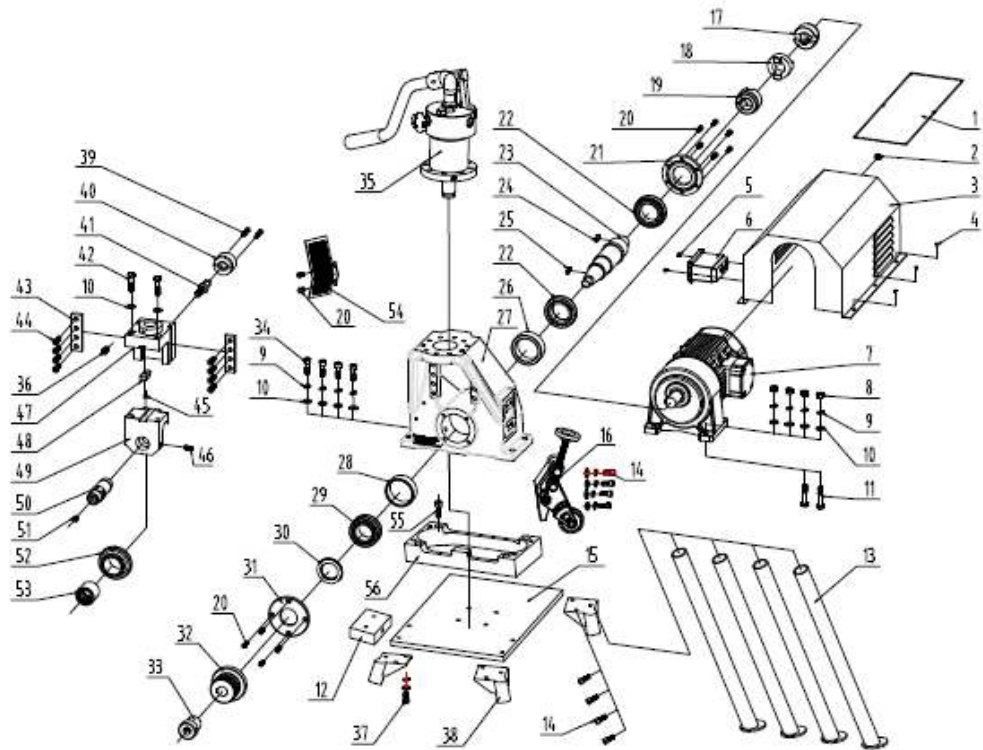

Fig.17
1. TWG-IIA Roll grooving machine component and parts form(Fig.17)